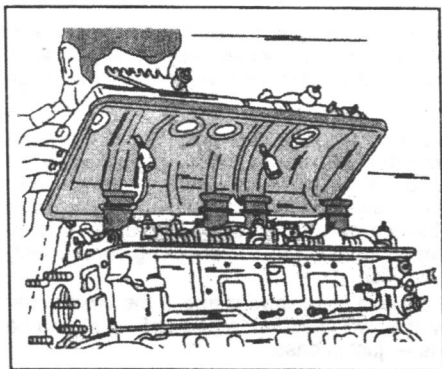

Fig. 1.59. — Fitting the cylinder head (rocker) cover.
- When fitting the cylinder head cover use new seals and packings for the spark plug tubes. A new rubber gasket must be bonded to the cover. Attach the cylinder head cover with the two screws. Fit new rubber tubes. Fig. 1.59 shows how the cylinder head cover is lowered in position.